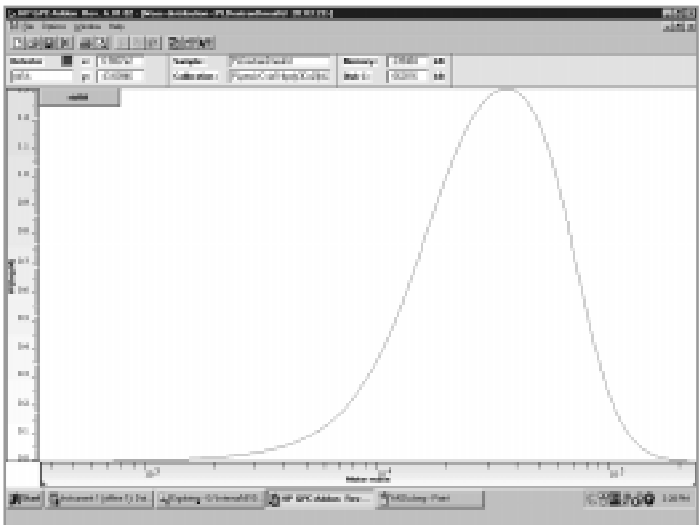

Fig. 13:
7. The molar mass distribution should look like the one shown in figure 13.